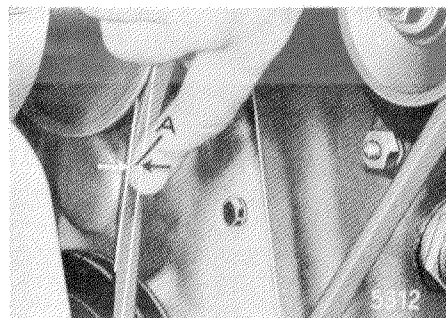

Figure 20–15/3
1369900951 is screwed to the long fixing stud without washer. The use of a standard nut causes an incorrect alignment of the mounting bar (6), thus twisting the belt tensioning device (see Figure 20–15/2).
7. Fix the fan bearing bracket (10) with belt pulley (9) to the support of the fan bearing bracket (14). Tighten the fixing screw (2) only lightly at first, so that the fan bearing bracket can still be turned easily for the tensioning of the V-belt (see Figure 20–15/1).
Note: The left screw (when viewed in direction of driving) is installed with lock washer (3), the right one seated in the slotted hole with washer (4) and lock washer (see Figure 20–15/1).
8. Insert the V-belt and adjust the tension of the V-belt by means of the screw (7) (see Figure 20–15/1).
The tension of the V-belt is correct if the V-belt can be pressed in approx. 10 to 15 mm between the two belt pulleys by moderate pressure (see Figure 20–15/3). Tighten the fixing screws (2) (see Figure 20–15/1).
9. Put the mounting bar (11) over the left-hand fixing stud and fix it with a lock washer, a standard hex nut (1) and a hexagon screw (13) (see Figure 20–15/1).
11. Screw the fan (8) to the belt pulley (9), with 4 screws and 4 spring washers (see Figure 20–15/1).
1. Drive out the centering ring (1) toward the front with hammer punches to the fan bearing bracket (10) (see Figure 20–15/4).
2. Unscrew the hex nut (2) and remove the Woodruff key (3).
3. Pull the fan bearing bracket (10) out of the fan hub (6).
4. Remove the spacer (7), the annular grooved-bearing (8), and the oil-seal ring (9) from the shaft.
5. Take the guard ring (5) and the annular grooved-bearing (4) out of the fan hub (6).